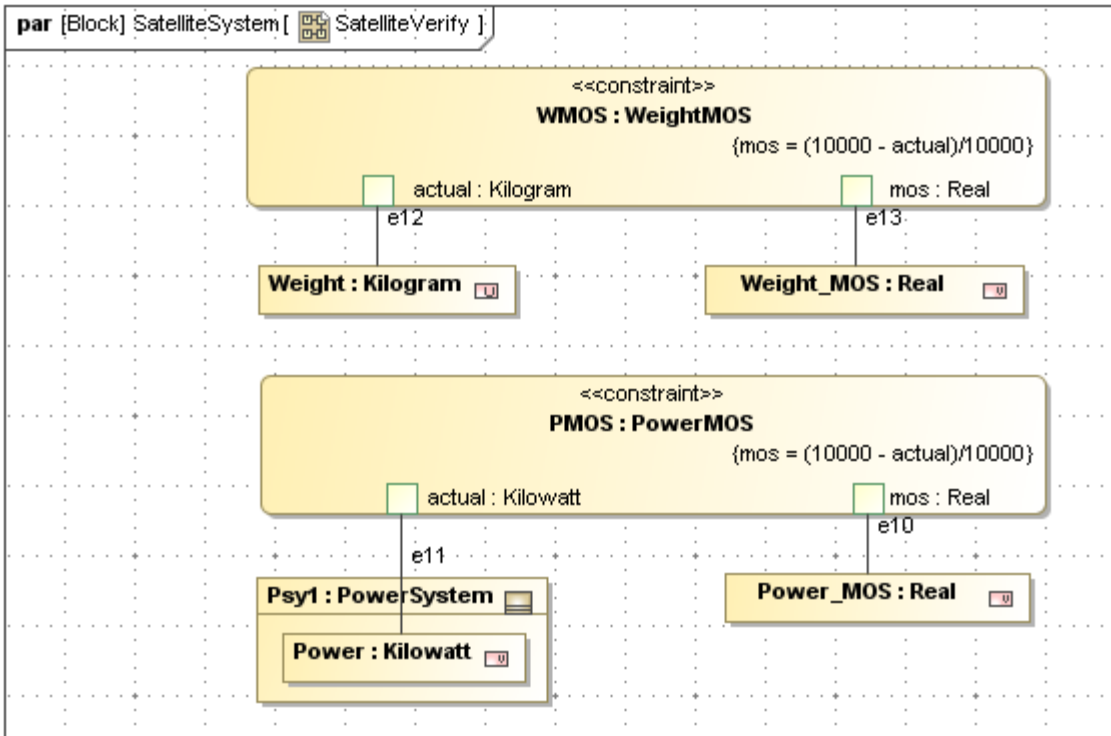

Figure 3.6 SysML Parametrics Diagram
- e. Drag the WeightMOS constraint block inside the diagram and give it the name WMOS as a constraint property of SatelliteSystem. Display the constraint parameters and arrange as shown in Figure 3.6.
- g. Add connectors from the Value or Part Property attributes to the Constraint Property parameters as shown in Figure 3.6.